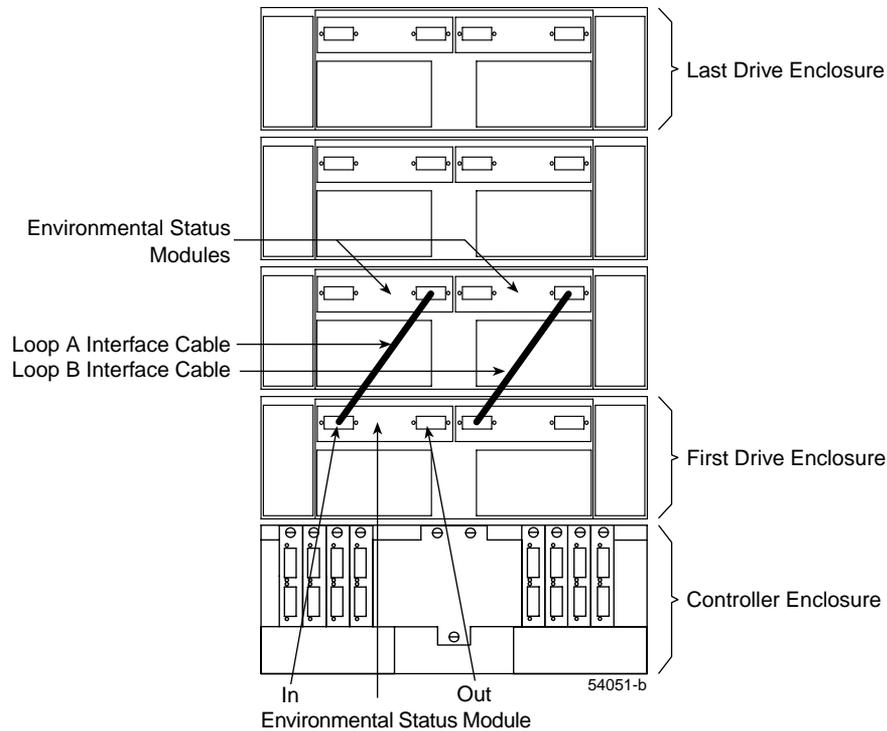

Figure 8-1 Connecting Two Drive Enclosures Into a Redundant Drive Loop
1. Connect the first two drive enclosures to drive Loop A (Figure 8-1).
2. Connect the first two drive enclosures to drive Loop B (Figure 8-1).